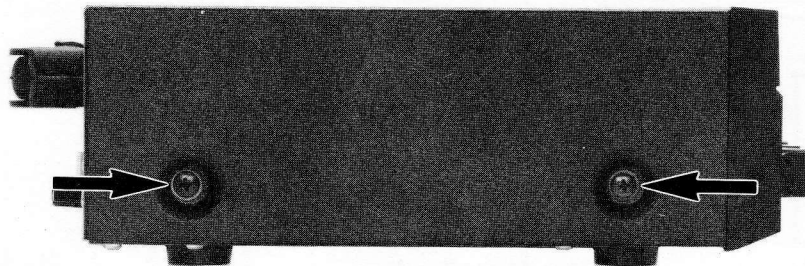

Figure 3-1
- a. Remove two screws from each side of Cabinet (Figure 3-1).